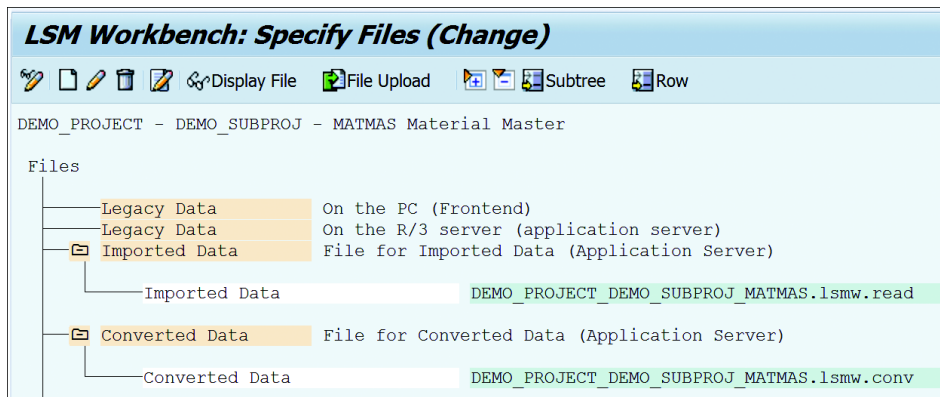

Figure 19.74 Specify Files
10. In the next step, SPECIFY FILES, maintain the path of the input field from which the input field will be read. The file can be imported either from a PC frontend or from a specific directory in the application server. The system also shows the name for the converted file. You can edit the name if you wish. To specify the file path, keep the cursor on the respective option (either PC FRONTEND or APPLICATION SERVER) and click the CREATE button on the toolbar (see Figure 19.74).